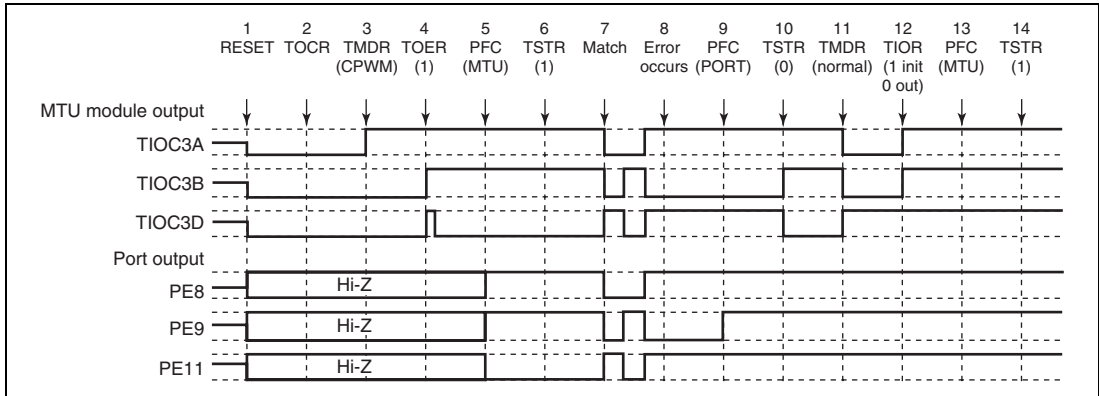

**Figure 11.110 Error Occurrence in Reset-Synchronous PWM Mode, Recovery in Normal Mode**
**Operation when Error Occurs during Reset-Synchronous PWM Mode Operation, and Operation is Restarted in Normal Mode:** Figure 11.110 shows an explanatory diagram of the case where an error occurs in reset-synchronous PWM mode and operation is restarted in normal mode after re-setting.
1 to 10 are the same as in figure 11.110.